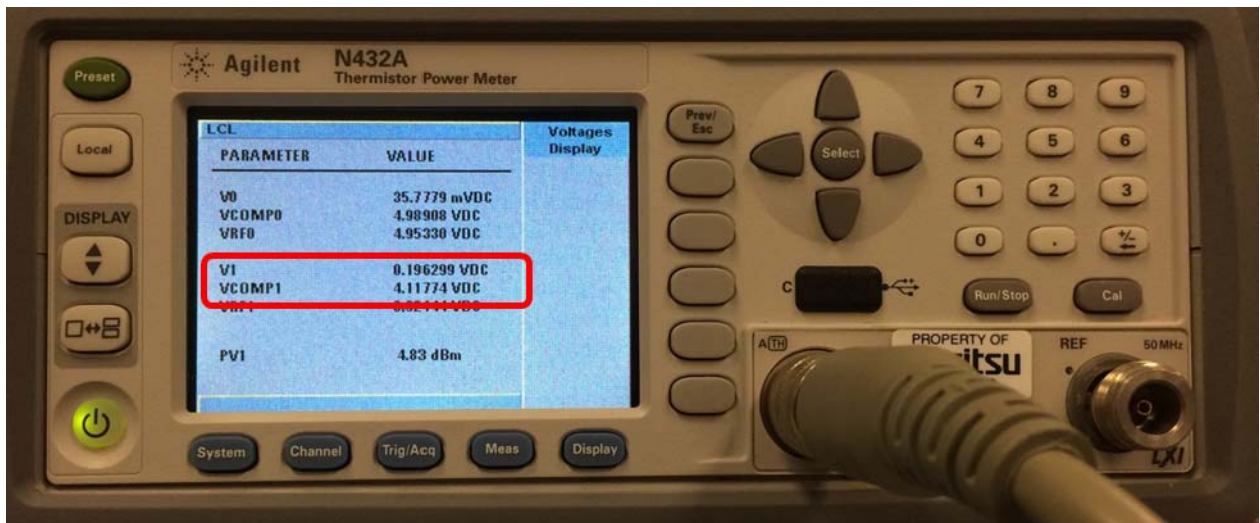

Figure 3-9. V_1 and V_{COMP1} Values Shown on the N432A
24. Note the measured values “ V_1 ” and “ V_{comp1} ” as shown in Figure 3-9.